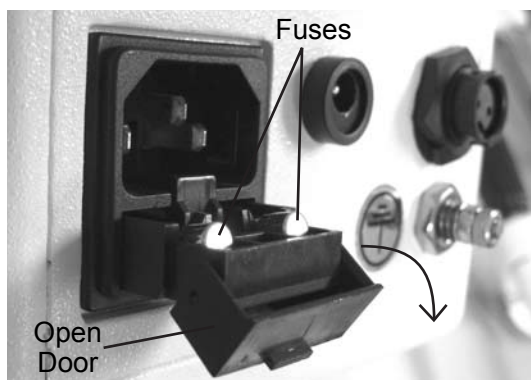

Figure MM-6 Open Fuse Door
3. Open the Door to the Fuse Holder by pulling it down. Refer to Figure MM-6.